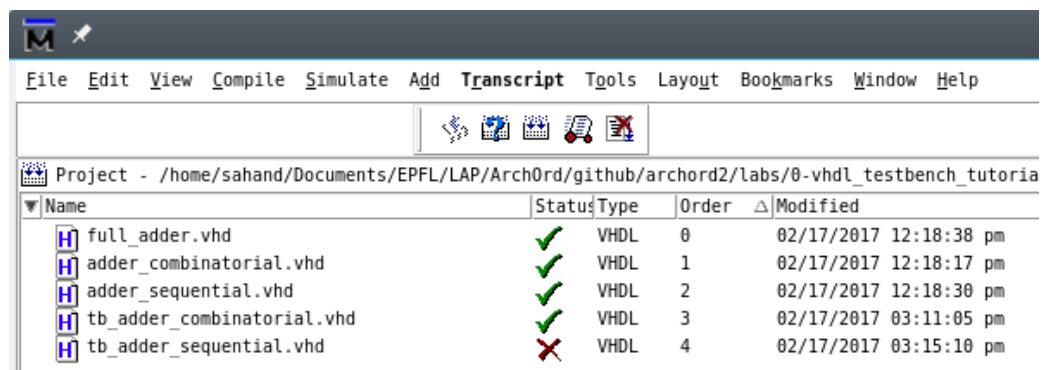

Figure 5: Compiling all testbenches
1. Click on the  icon to compile all sources. You should get something similar to Figure 5. Recall that the testbench for the sequential adder is not written yet, so it is normal it fails to compile.